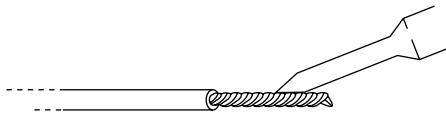

FIGURE 8-9: Heating the twisted wires
3. Hold the hot soldering tip against the bare twisted wire (see Figure 8-9).